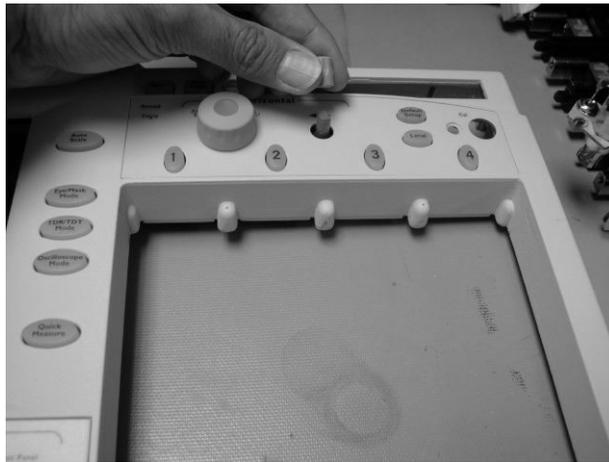

Figure 7-50. Removing the Knobs
- 3 Pull off all knobs, as shown in Figure 7-50.